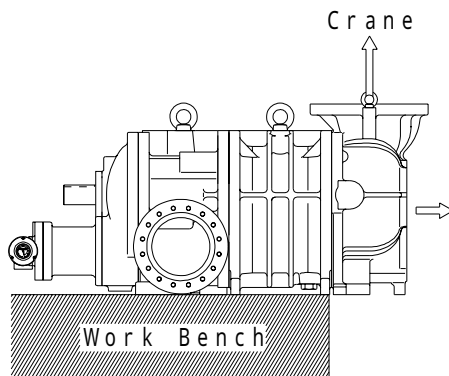

Fig. 3-38 Setting of compressor
2. Set the compressor as the following fig. 3-38. Install two lifting lugs into bolt holes on the top of the suction cover and lift up the suction cover by using the crane.